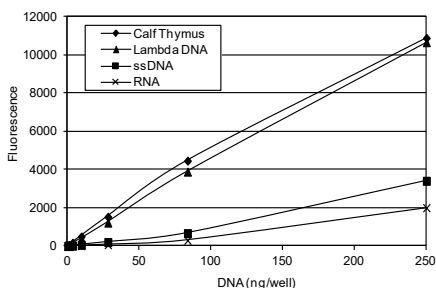

Figure 2. Selectivity of AccuClear® dsDNA quantitation assay for double-stranded DNA compared to single stranded DNA and single-stranded RNA.
AccuClear® Ultra High Sensitivity dsDNA Quantitation Kits provide highly sensitive and accurate DNA quantitation across a broad range of DNA concentrations. Unlike absorbance-based measurements, AccuClear® dye is highly selective for double-stranded DNA over single stranded DNA or RNA (Figure 2). The assay is linear between 0.03 ng and 250 ng of dsDNA per assay (3 pg/uL to 25 ng/uL sample concentration) in 96-well microplate format (Figure 3).
9. To determine the unknown DNA concentration generate a standard curve (see Figure 3). Average the triplicate values for each standard sample and subtract the average zero DNA value from each data point. Plot the fluorescence values for the DNA standards on the y-axis and ng/well DNA on the x-axis, and fit a trend line through these points to generate a standard curve with a y-intercept = 0. Use the equation for the standard curve trend line to calculate the amount of unknown DNA in each well ( $y = \text{fluorescence}$  and  $x = \text{ng DNA per well}$ ). Note: the standard curve shown in Figure 2 is for reference only. You must generate your own standard curve using your instrument to calculate the amount of DNA in your unknown samples.
Calf thymus DNA can serve as a reference for most plant and animal DNA because it is double-stranded, highly polymerized and is approximately 58% AT (42% GC). Lambda dsDNA yields similar results (Figure 2). You may wish to use a standard similar to your unknown samples in DNA length, structure (i.e., linear vs. circular), or GC content. For bacterial DNA, a species-specific standard may be desired because the GC content varies widely depending on the species. The AccuClear® dsDNA Quantitation Solution is available without standards (cat. no. 31027) for customers who wish to prepare their own standards.